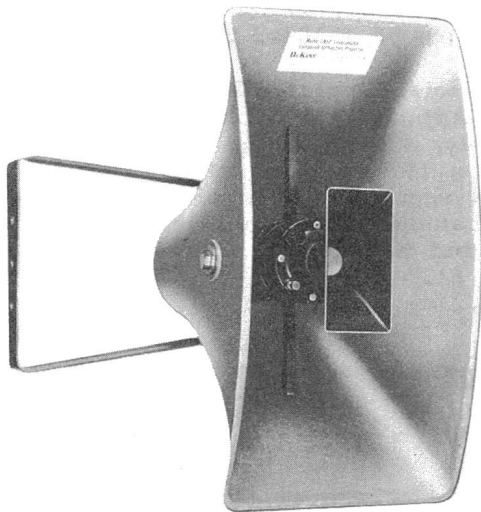

Figure 54 - DuKane 5A90 Loudspeaker
3.72 The DuKane 5A90 is similar in construction and color to the DuKane 5A105. It is a 16-ohm, 30-watt loudspeaker with a dispersion angle of 120° . When used with the DuKane 710-3050 transformer it is suitable for indoor or outdoor use. The over-all dimensions are 10-1/2" wide, 20-1/2" high, and 20" deep. It weighs 12 pounds. This loudspeaker is shown in Figure 54.